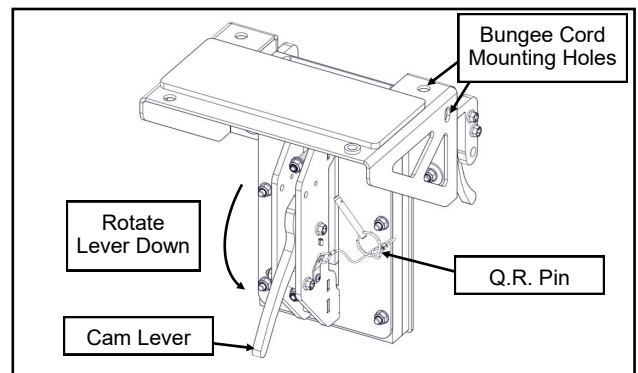

Fig. 4 (installing chainsaw, remove Q.R. pin)
2. To install the chainsaw into the mount, pull the quick release pin and rotate the chainsaw mount's cam lever down. See fig. 4.